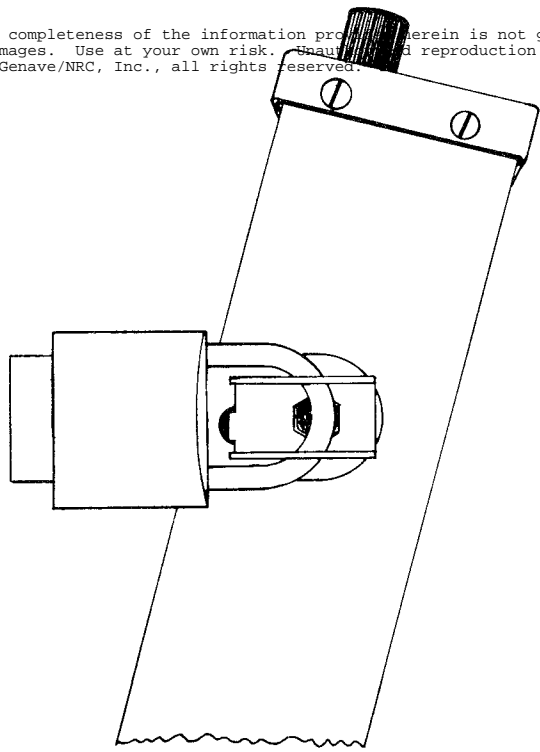

Figure 3
- 4 Attach padlock through the holes in side of mounting bracket. Latch padlock to prevent removal of unit from mounting bracket (See Figure 3).